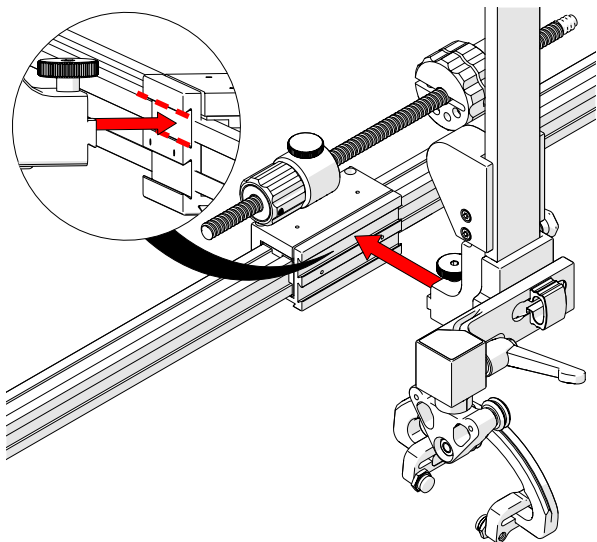

Fig. 48 - Mount to slider pps
2. Loosen the probe holder adjustment knob to attach the encoded skew vertical probe holder to the slider pps slider (Fig. 48).